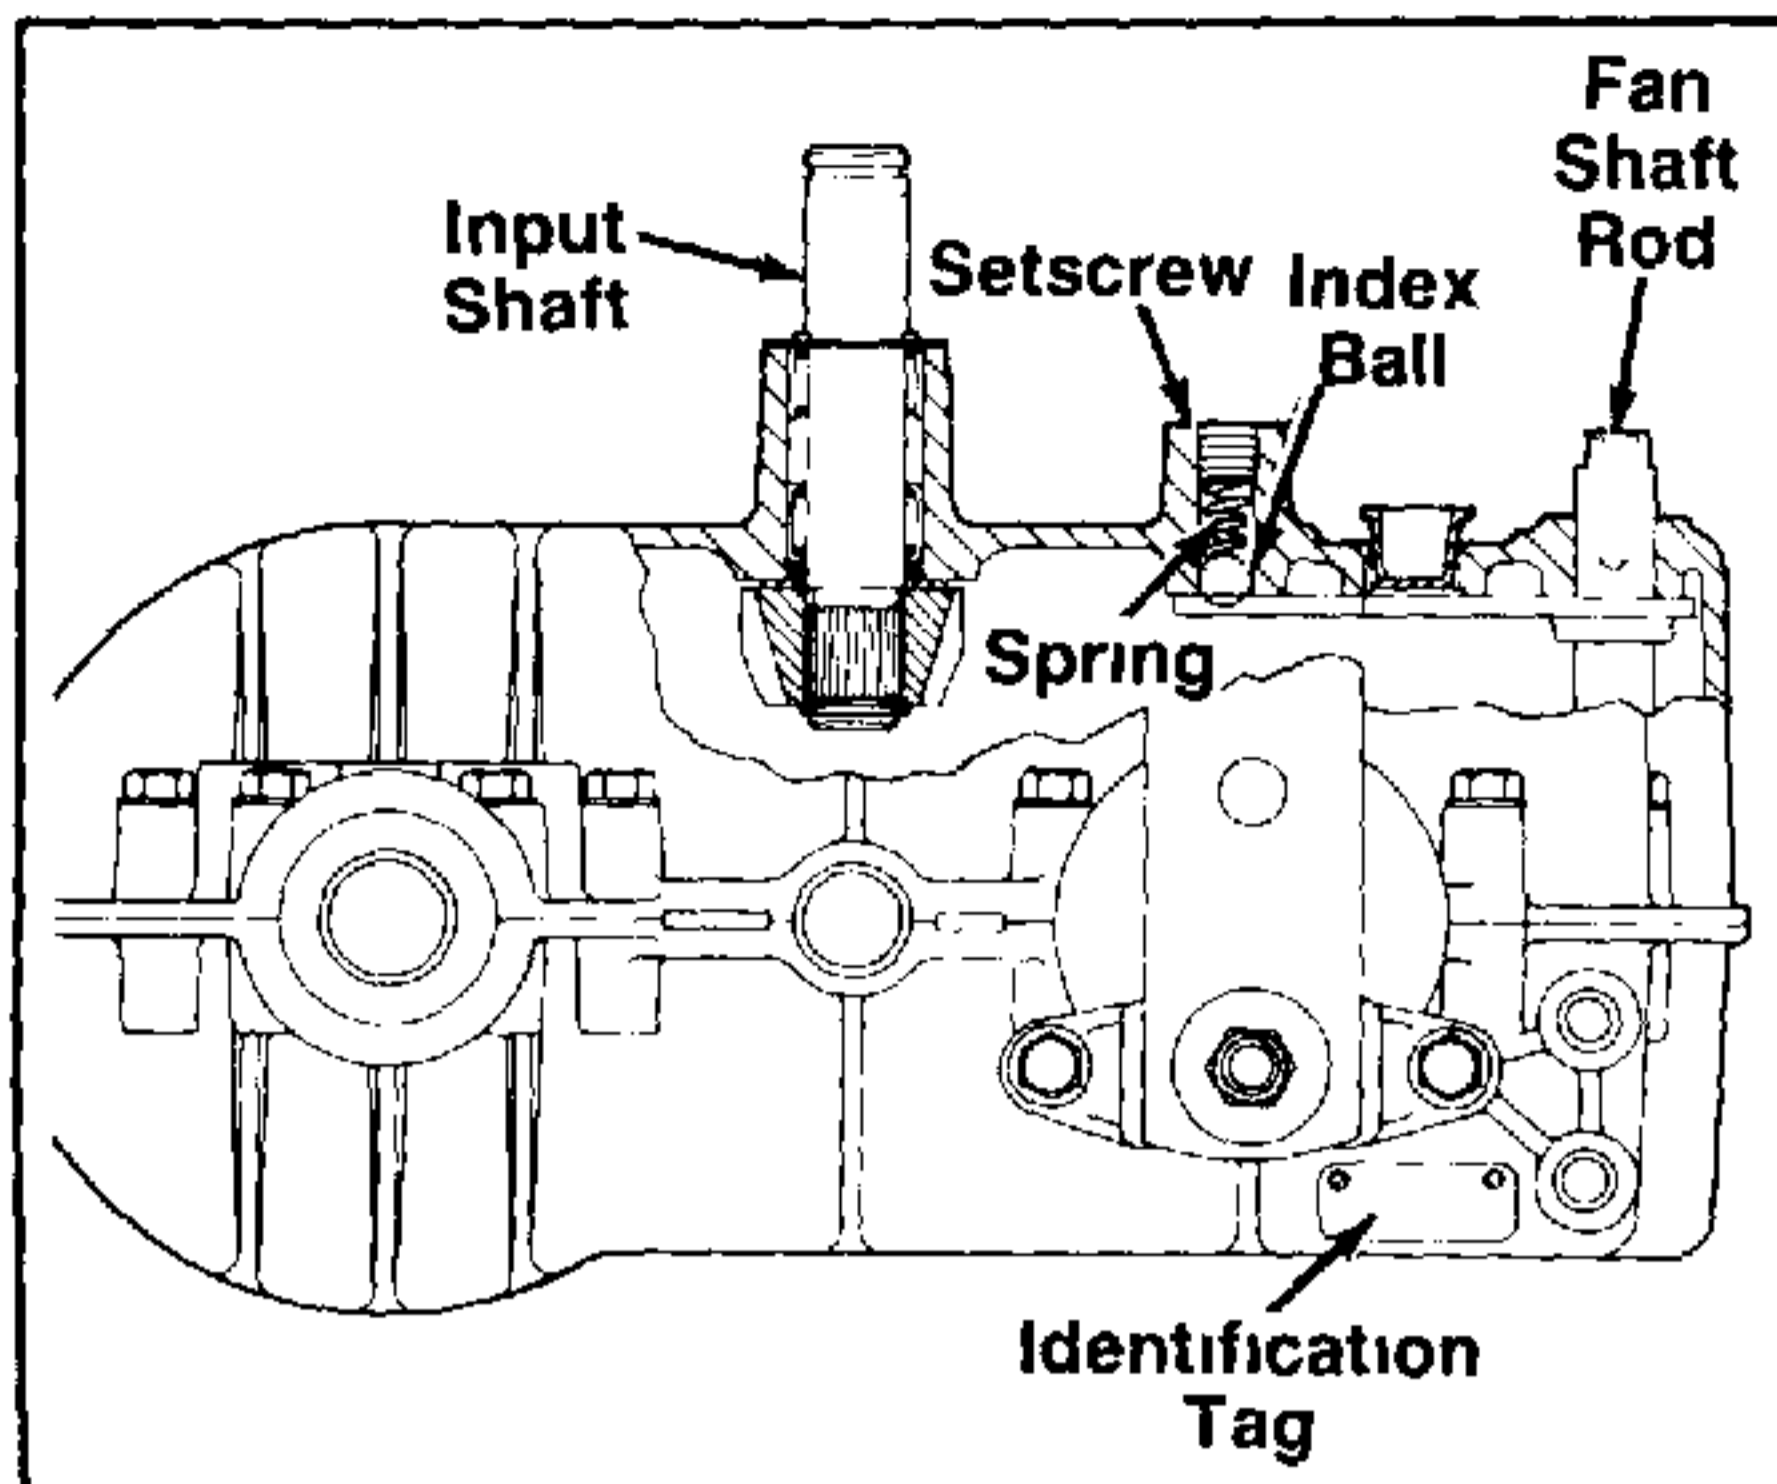

FIGURE 13
The unit contains an aluminum tag showing the model number. See figure 13.
- 2 Remove setscrew, spring, and index ball. See figure 13.